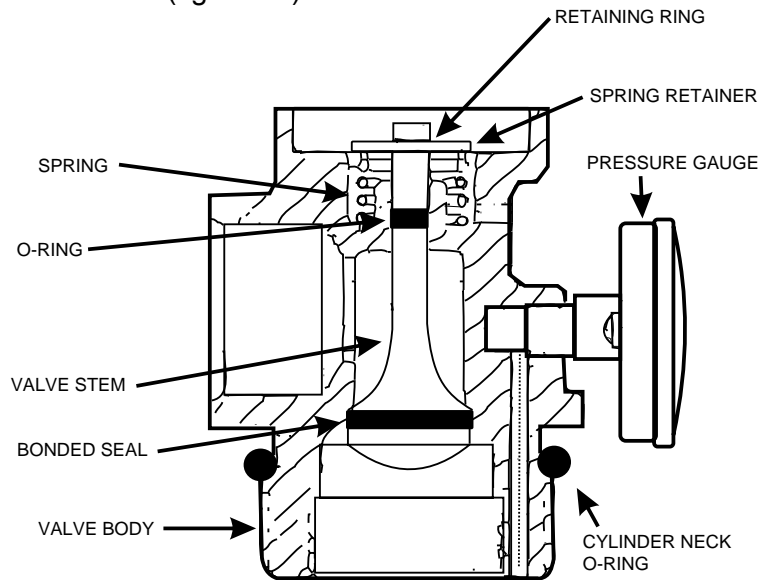

FIGURE 39 - VALVE (CROSS-SECTION VIEW)
10. Rebuild the valve (figure 39):